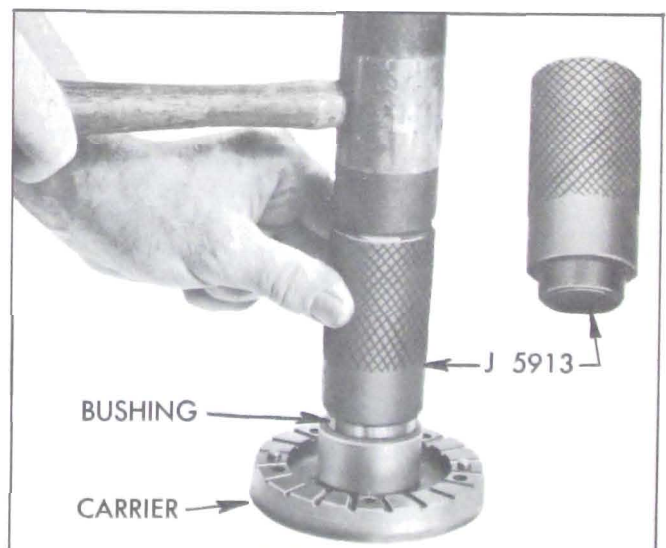

Figure 5-53—Installing Bushing in Blade Carrier
7. Inspect piston oil seal ring and bore of blade carrier for scoring or wear. If bushings in carrier are worn they should be replaced, using installer J-5913 to properly locate new bushings. See Figure 5-53.